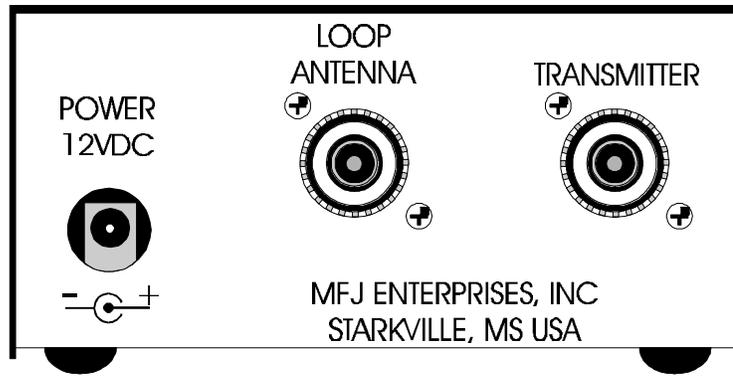

Figure 6
**Failure To Connect The Coaxial Leads To The Correct Connectors On The Controller Box Can Damage The Controller Box Or Other Equipment!** See figure 6. Be sure the cable to the transceiver and the power supply (if used) are connected.